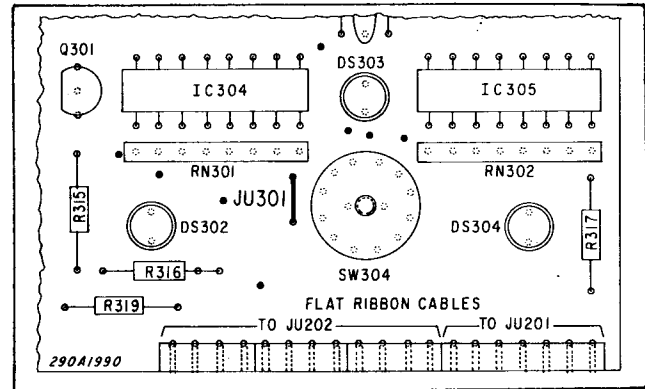

Figure 4-2. Multiplex PC Board.
*If Manual Siren is desired in SEC mode, add JU301 to the control head Multiplex PC board (see Figure 4-2).